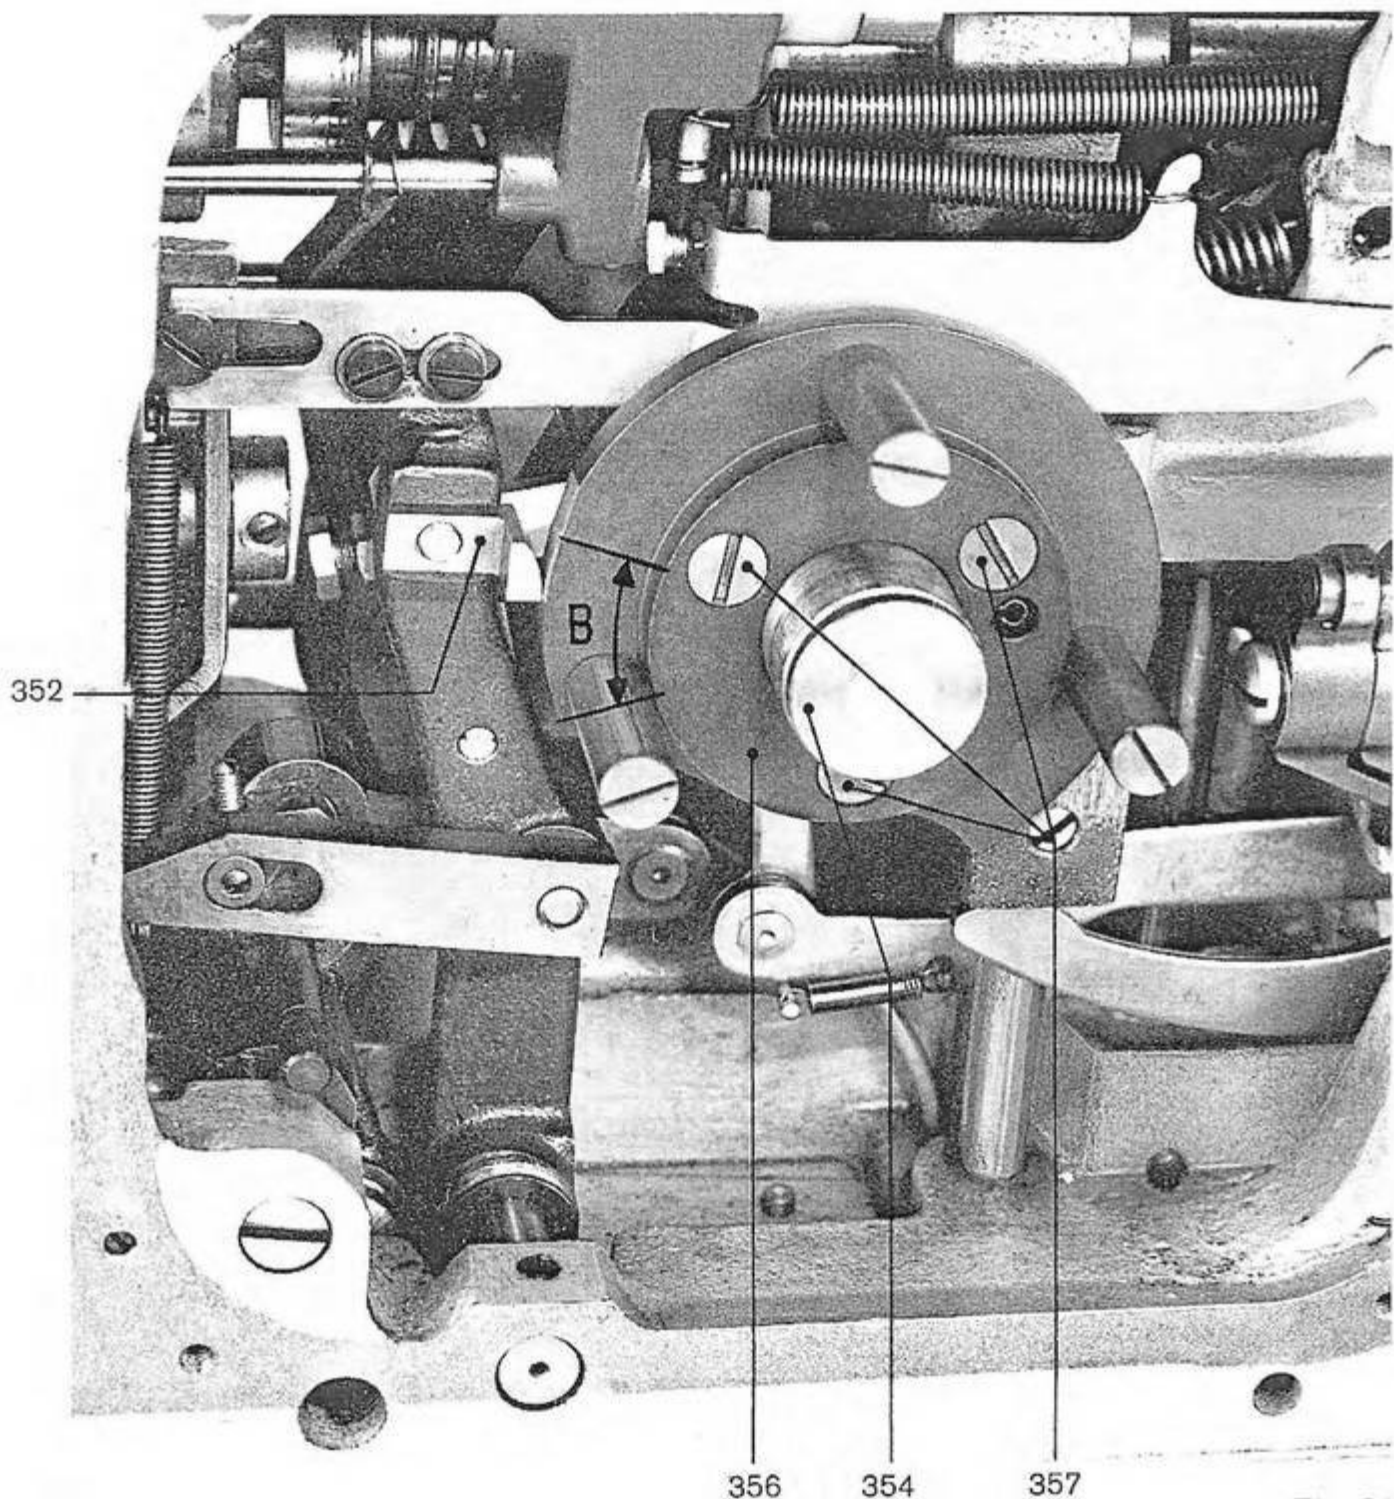

Fig. 82
2. Fasten the gauge 356 (fig. 82) to the hub 354 by the three fastening screws 357 of the control cam.
In machines with the disengaging cam 124 (fig. 66) of stell plate (old design) set the gauge 356 (fig. 82) so that the stone 352 situates itself in the zone "B" of the gauge 356. See fig. 82.